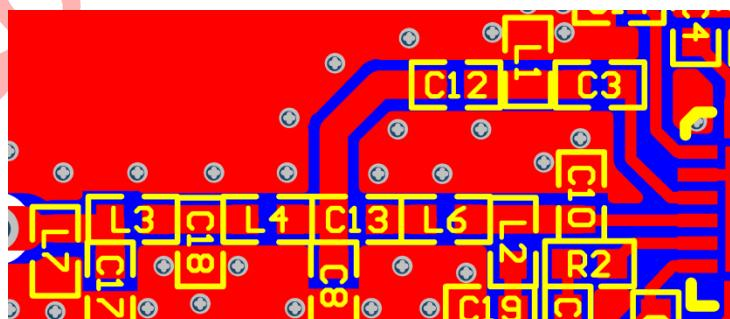

Fig. 2.2b RF matching
2. The impedance of RF path should be as close to 50 ohm as possible, and the RF trace should also be as short as possible. The ground plane below all RF traces must be intact and not fragmentary. The matching network (C3, L1, C12, C10, L2, L6, C13, R2) and LPF (C8, L4, C18, L3 and C17), should be placed close to A7139 IC because the matching network affects RF performance (power, and current) heavily. Therefore, we strongly recommend user to follow components placement and layout where shown in Fig. 2.2b without any change.